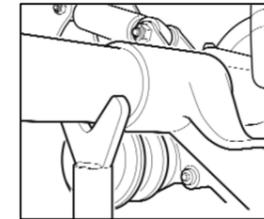

Fig. 4
**WARNING:** Ensure that the axle support is secure during this operation as the arcuate motion may cause the axle to move backwards (Fig. 4).